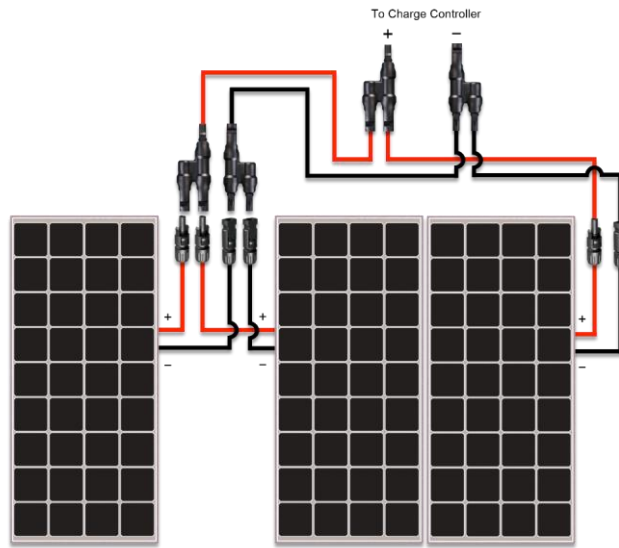

Figure 8.3 Three RNG-100D Panels in parallel
Three solar panels is the maximum amount of panels that can be connected in parallel if they are adjacent to one another, without using extra cabling. **Fig. 8.3** above shows the arrangement for connecting three solar panels in parallel. Remember that this arrangement is applicable if the three solar panels are to be mounted adjacent to one another. This connection requires **two (2)** pairs of MC4 Branch Connectors. When one or multiple panels are mounted at different locations- that is, separated by a distance, the panels need to be extended with MC4 Extension Cables (sold separately).